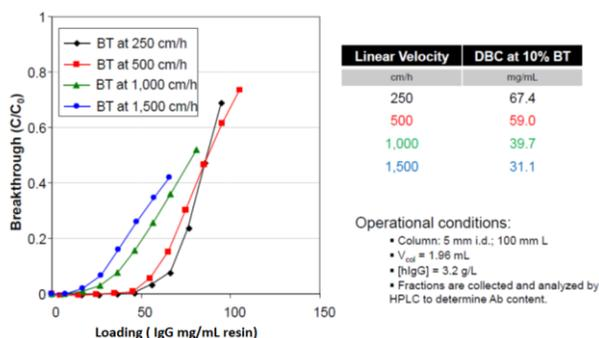

Figure 1. Breakthrough curve of antibody sample (hIgG)
Dynamic binding capacity	67 mg/ml at flow rate 250 cm/h (DBC curve can be seen in Fig. 1 with a hIgG)
- (a) The example of Protein A-Sil dynamic binding capacity is listed in Figure 1.